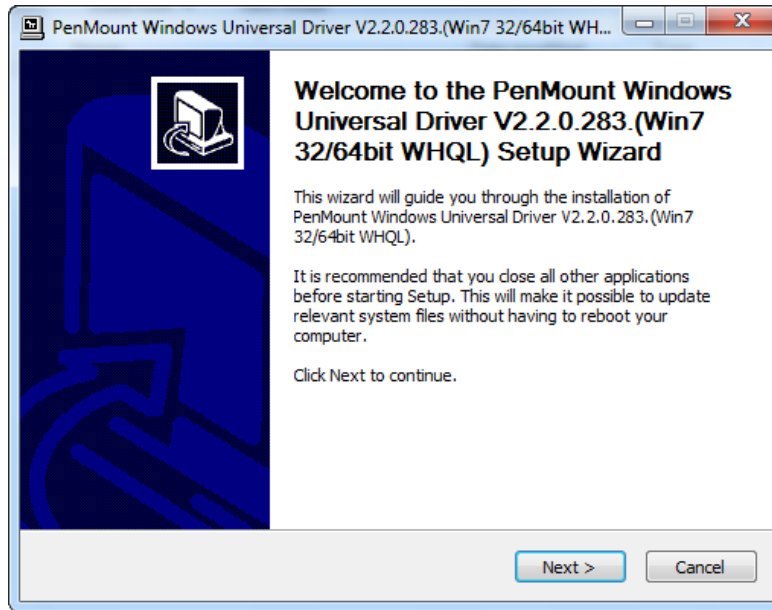

Figure 8-12: Touch Screen Driver Welcome Screen
Step 4: A **Welcome Screen** appears (**Figure 8-12**).